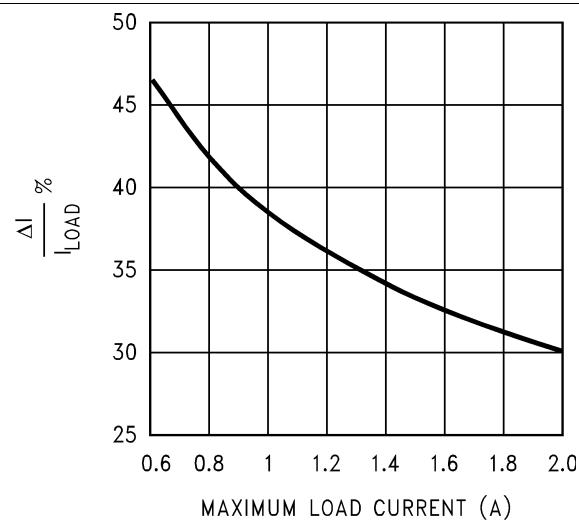

Figure 36. Current Ripple Ratio
4. The nomographs were generated by allowing a greater amount of percentage current ripple in the inductor as the maximum rated load decreases (see Figure 36). This was done to permit the use of smaller inductors at light loads. However, Figure 36 shows only the *median* value of the current ripple. In reality there may be a great spread around this because the nomographs approximate the exact calculated inductance to standard available values. It is a good idea to refer to *AN-1197 Selecting Inductors for Buck Converters* (SNVA038) for detailed calculations if a certain maximum inductor current ripple is required for various possible reasons. Also consider the rather wide tolerance on the nominal inductance of commercial inductors.